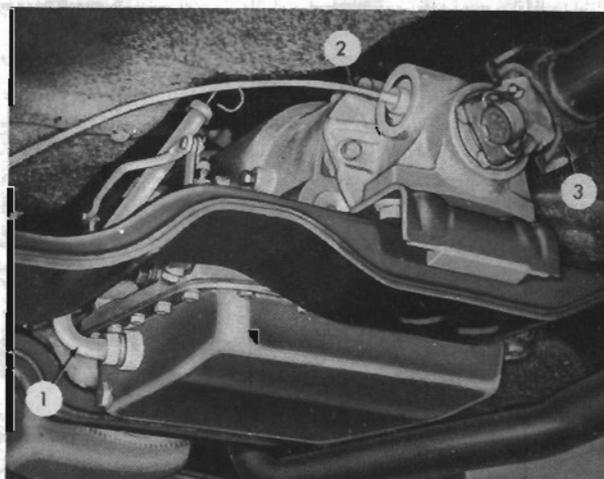
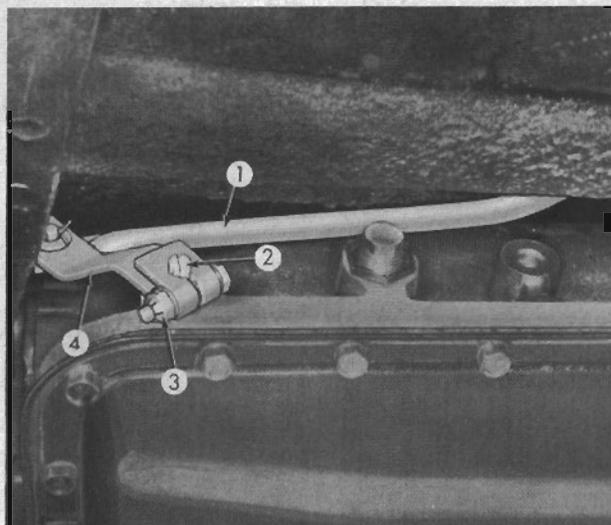
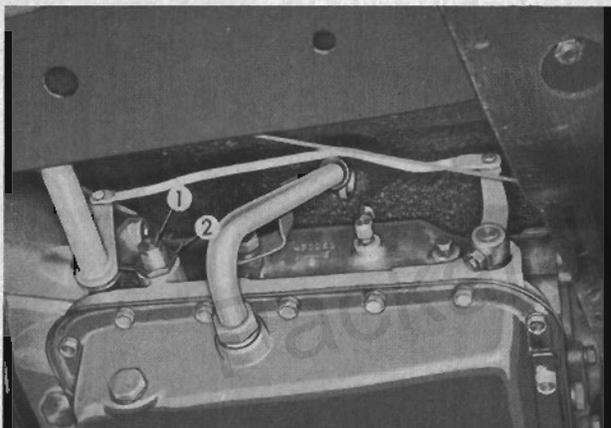
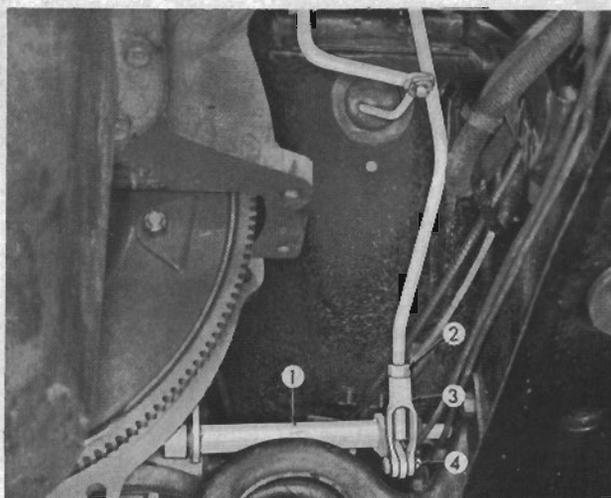

FIG. 282
FIG. 283
FIG. 284
FIG. 285
Disconnect the front propeller shaft (3, Fig. 282) at the transmission companion flange and tie to the right side of the frame out of the way. Disconnect the throttle valve linkage (see Fig. 283) and the manual valve linkage (see Fig. 284) at the transmission. Disconnect the selector to bellcrank linkage by removing the clevis pin (4, Fig. 285) from the clevis at the bellcrank (1). Remove the bolts and nuts that hold the bellcrank to the transmission bracket and to the frame bracket and remove the bellcrank. Disconnect the speedometer cable (2, Fig. 282) and the transmission cooler lines.
Remove the dipstick tube (1, Fig. 282) from the transmission oil pan.